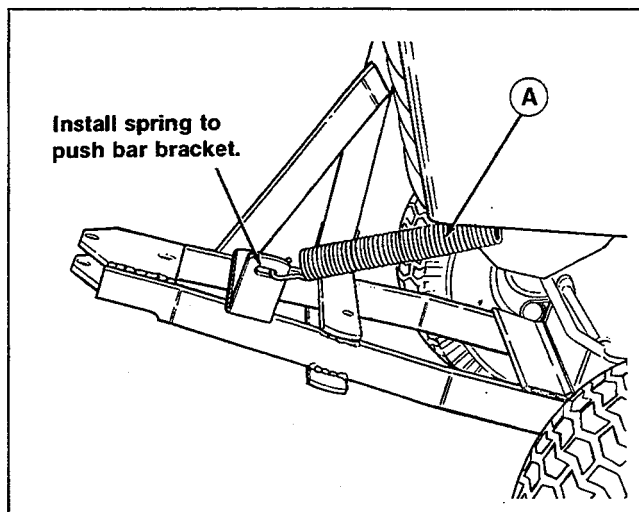

Figure 12.
4. See Figure 12. Raise the push bar and attach the spring (A) to the push bar bracket and the open end link of the 4-link spring assist chain.